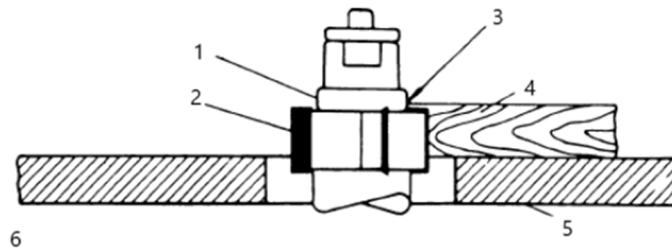
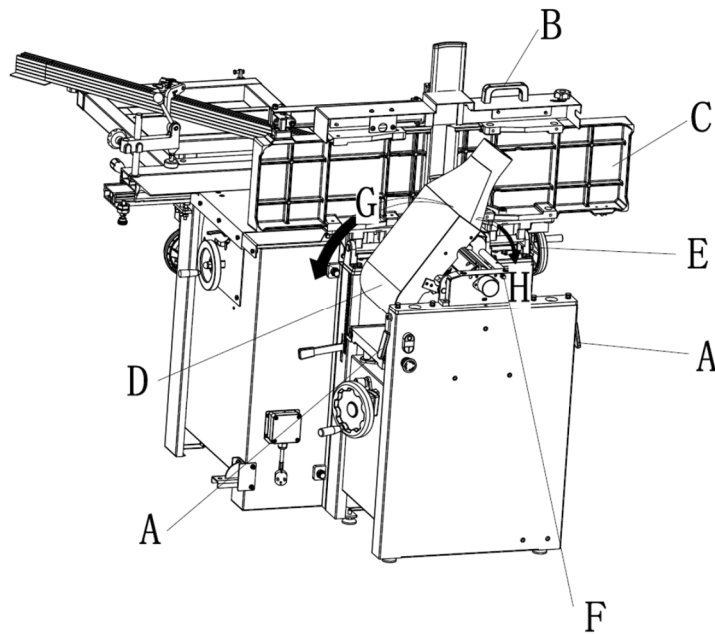

Figure 4
Figure 11
3. A portion of the work's edge must remain untouched by the cutter so that the collar will have sufficient bearing surface. See figure 4 for an example of insufficient bearing surface.
1. Release both cabinet table locks (A) by rotating the handles toward the operator, then pulling away from the machine.
2. Raise the table (C, figure 11) using the handle (B).
When raised, the table should be in the vertical position as shown in C, figure 4. The latch (E, figure 11) should be engaged, preventing the table from an accidental forward fall.
3. Position the dust chute (D, H, figure 11) to the right. Use extreme care to avoid contact with cutterhead knives.
Referring to figure 11. To change the machine configuration from planer to jointer: